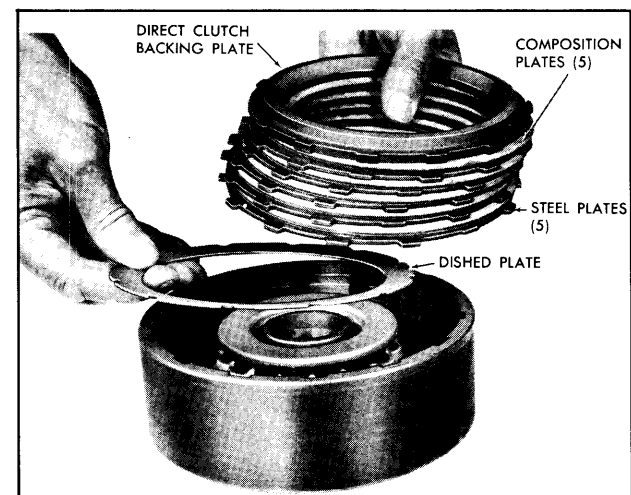

Fig. 7E-181 Installing Clutch Plates
1. Install a new inner clutch piston seal on piston with lip facing away from spring pockets. (Fig. 7E-174)